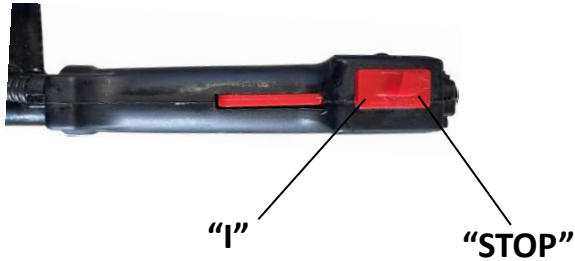

Fig. 4
The start switch allows to start and turn off the engine of the appliance. To ensure the operator's safety, make sure that the starter switch starts the machine's engine when it is in the "I" position and turns it off when it is in the "STOP" position before using the earth auger. (Fig. 4).
1. Place the switch on '**STOP**' (**Fig. 4**).